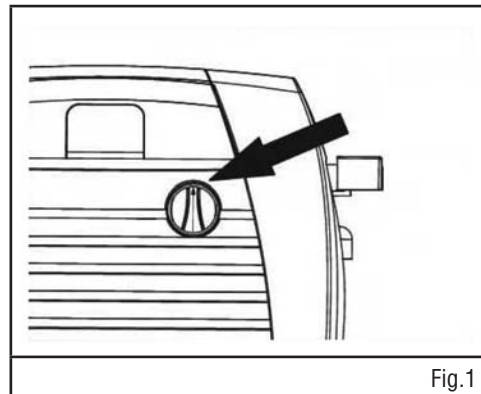

Fig.1
1. Make sure that the ON/OFF switch is in the OFF position. (Fig. 1)